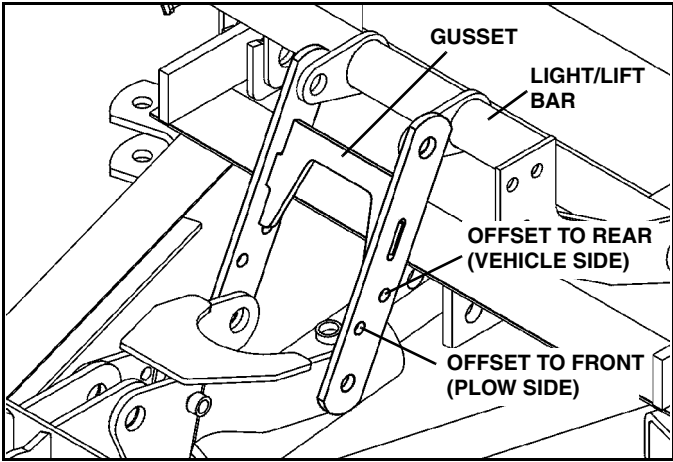

Figure 1-4
9. Position lift link for connection to light/lift bar. Make sure that the gusset is up and the offset side plate holes are oriented properly to align with jackstand: (See Figure 1-4)